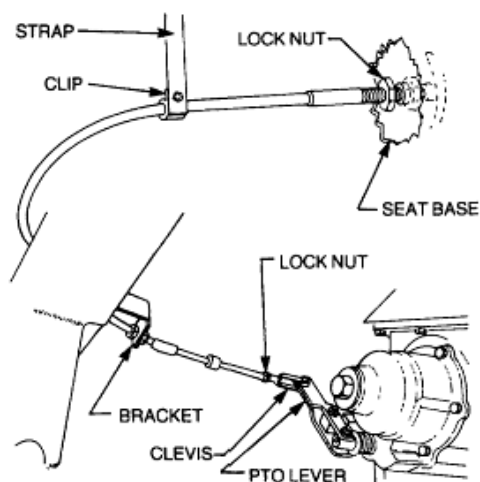

Figure 55 PTO Control Cable Removal
- a. Remove the split pin from the PTO lever clevis (Figure 55).
- b. Install the locknut on the cable and secure the cable to the seat base (Figure 55).